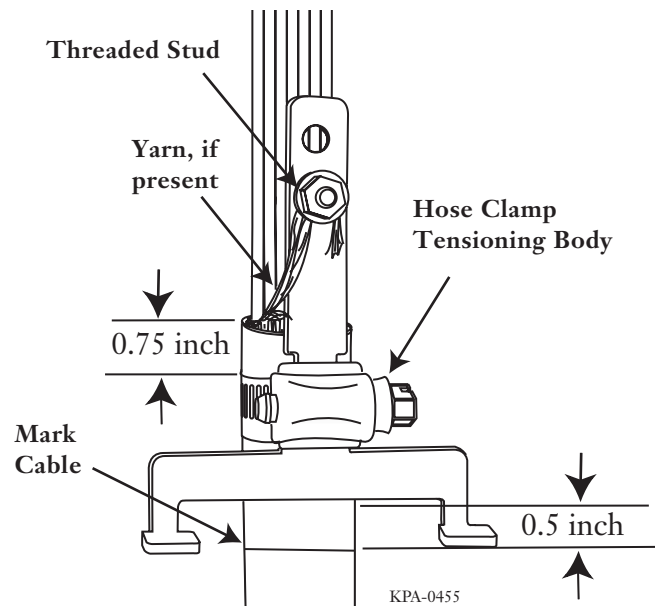

Figure 5 — Strain-relief Bracket
**Step 1** Place a hose clamp over the cable and bracket approximately 18 mm (0.75 inches) below the sheath end (Figure 5).
**Step 2** Tighten the hose clamp in the notch on the bracket with the tensioning body on the hose clamp on the same side of the bracket as the threaded stud (Figure 5). Tighten hose clamp to a torque value of 30 in-lb.
**Step 4** Wrap the yarn (if present) twice, clockwise, around the threaded stud (Figure 5).
**Step 6** Mark the cable in the location shown in Figure 5.